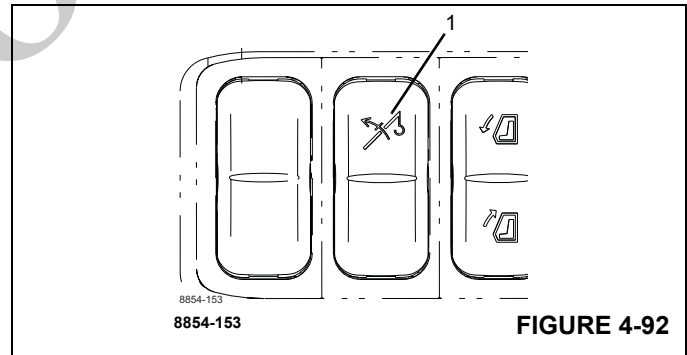

FIGURE 4-92
The button (1), (Figure 4-92) is only active if the current degree of utilization lies above 100% and the crane movements are switched off.
- Push the (1), (Figure 4-92) button and hold it.
- The button (1), (Figure 4-92) will no longer need to be used.